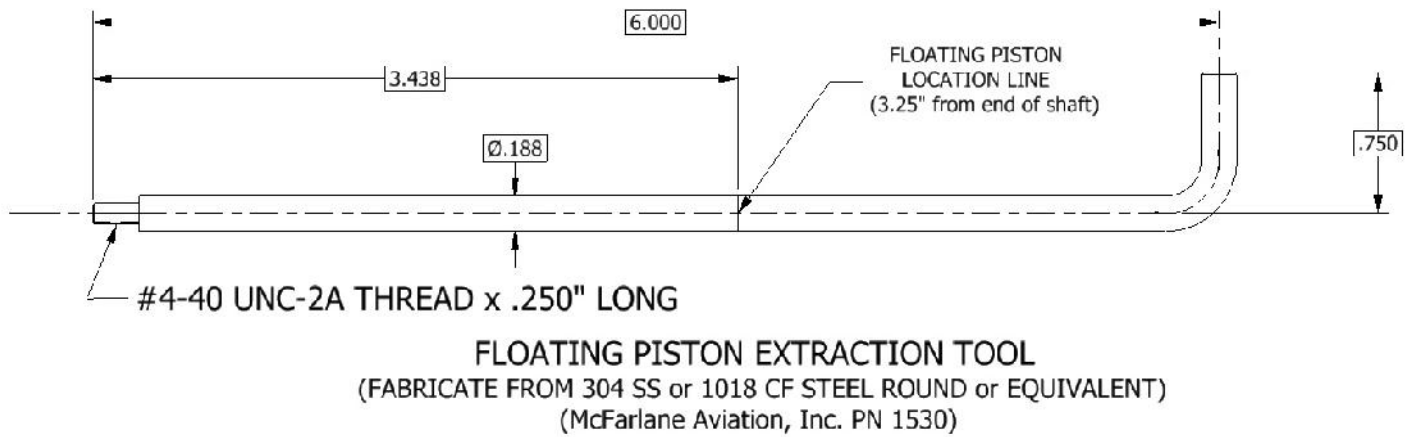

FIGURE 4 – SHIMMY DAMPENER SERVICE TOOL
- 2) Install a new O-ring on the floating piston. Then install the floating piston, spring, and setscrew in the shaft. Replace self-locking set screw P/N 1526. (Note floating piston orientation) (See Figure 4 for Service Tool Recommendation)